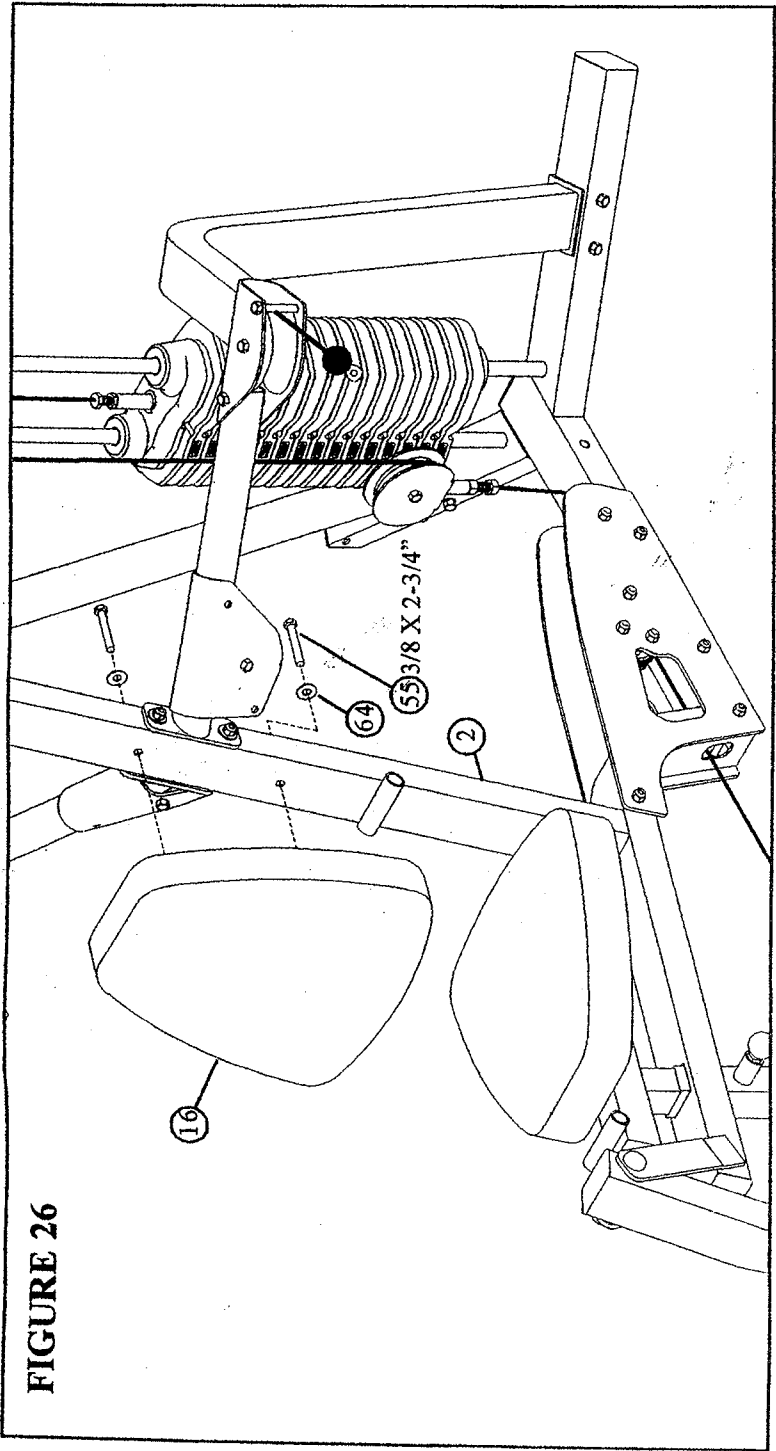

FIGURE 26
- **SECURELY** assemble one SEAT PAD (16) to the UPRIGHT (2) using two 3/8 X 2-3/4" BOLTS (55) and two 3/8" WASHERS (64). See FIGURE 26.